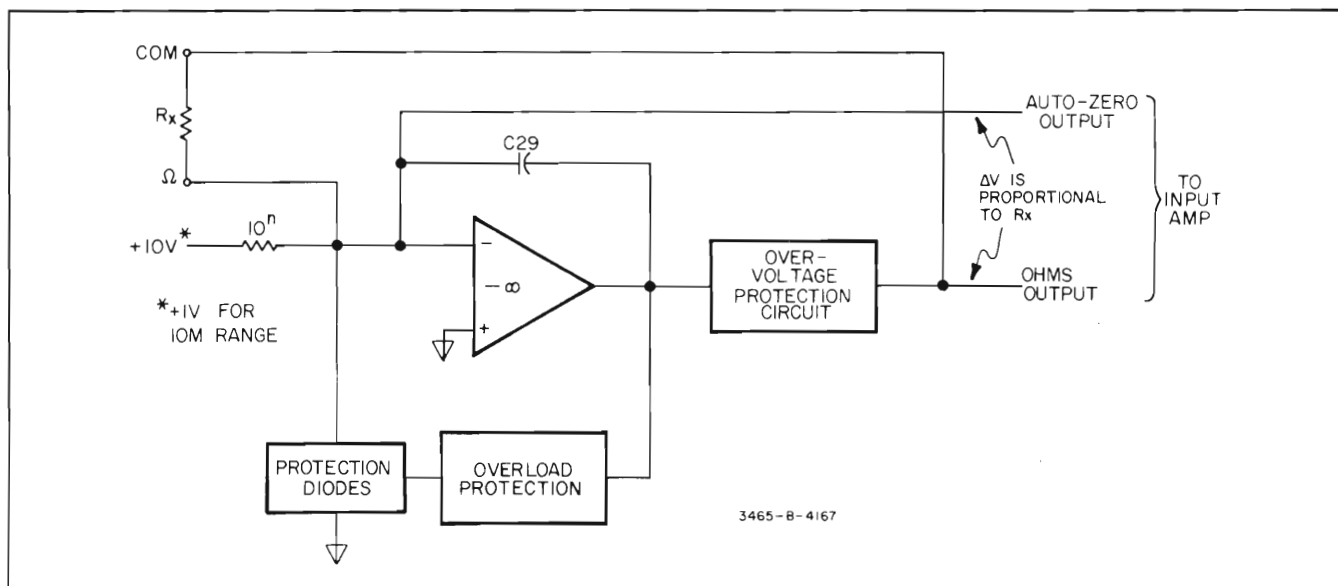

Figure 4-2. Simplified Diagram, Ohms Converter.
4-11. Ohms Converter. The ohms converter is a high gain integrating amplifier. A simplified diagram of the ohms converter is presented in Figure 4-2. The blocks of the ohms converter are the integrating amplifier, protection diodes, over-voltage protection circuit and the overload loop. An integrating amplifier is used because this type of amplifier is less susceptible to oscillations. The protection diodes clamp the HI terminal to a voltage of about + 1.2 V in the positive direction or - .7 V in the negative direction.
4-12. Figure 4-2 shows two outputs of the ohms converter being applied to the input amplifier. The ohms output is the ohms converter measurement signal and the auto-zero output is the ohms amplifier dc offset signal which is called the auto-zero (AZ) signal. This AZ signal is applied to the input amplifier during the auto-zero interval of the measurement sequence and establishes the reference for the analog-to-digital converter. An AZ signal greater than ± 1 mV causes the instrument readings to be invalid. This condition (AZ signal $> \pm 1$ mV) is present when the unknown resistance, R_x , is removed and an open loop is present on the ohms amplifier. To maintain the AZ signal at $< \pm 1$ mV when an open loop is present, an overload feedback circuit is used.